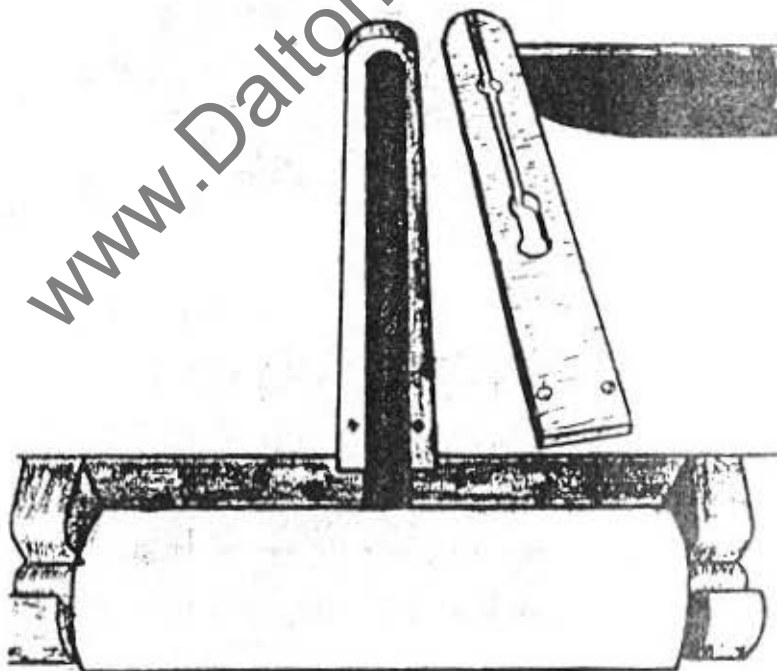

FIG 23
- 1) Take out the table insert (Pg.30 Fig 23).
The table insert (Fig.23). is repacable and should be removed when changing blades. The insert readily lifts out by removing off the two pins.